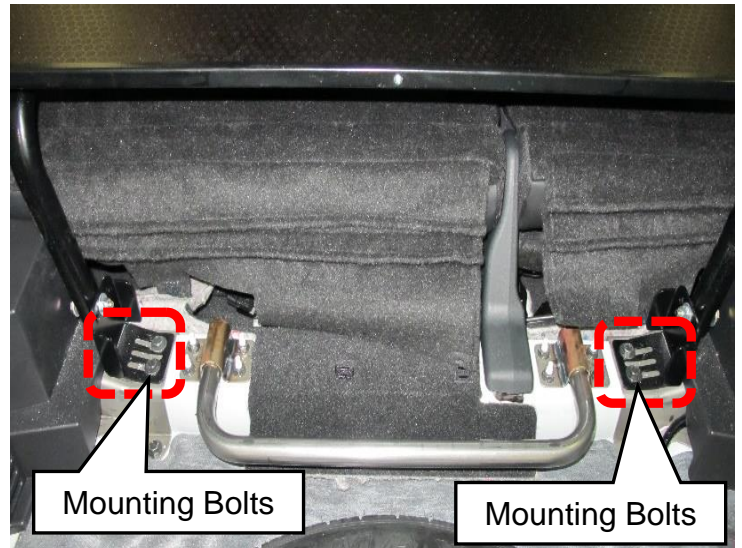

Figure 21
18. Install the (4) partition rear support mounting bolts (Figure 21).